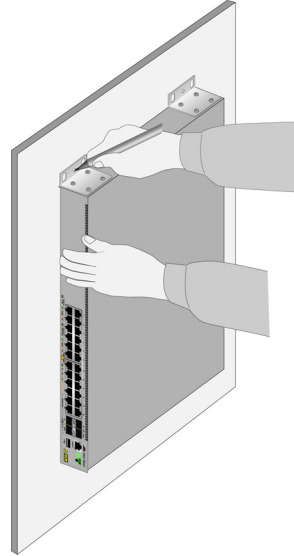

Figure 71. Marking the Screw Holes
5. Have another person hold the switch on the concrete wall at the selected location for the device while you use a pencil or pen to mark the wall with the locations of the screw holes in the brackets. Refer to Figure 71 on page 130.